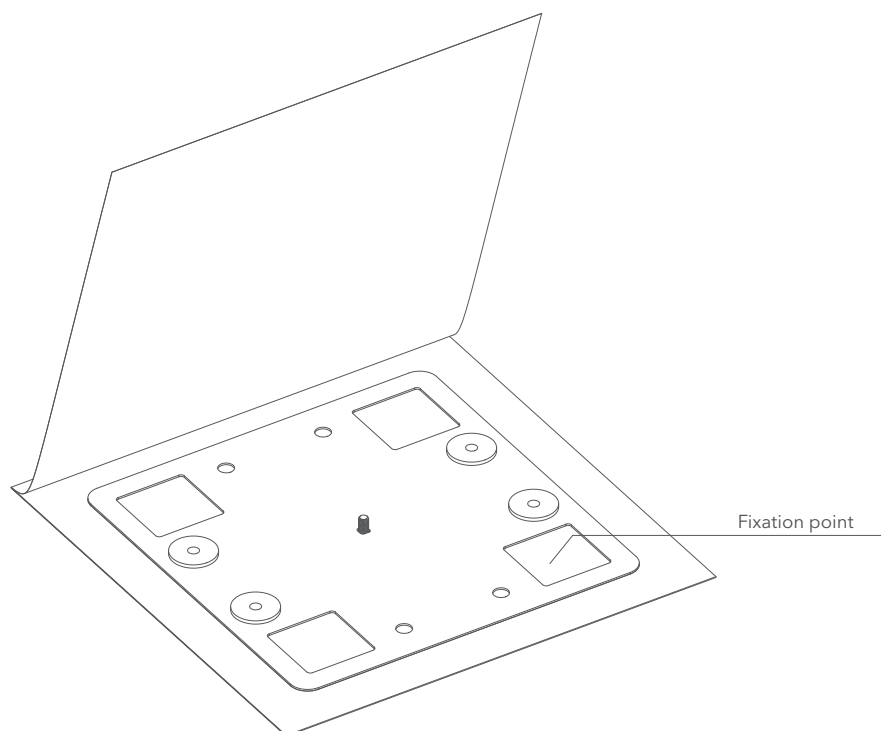

Fig. 4 Welding of the diaphragm at the attachment points
- 3** Cut out a 510 x 510 mm membrane. Drill the holes for the fastening screws. Weld the membrane at the four mounting points and 50 mm around the entire mounting plate. (Fig. 4).